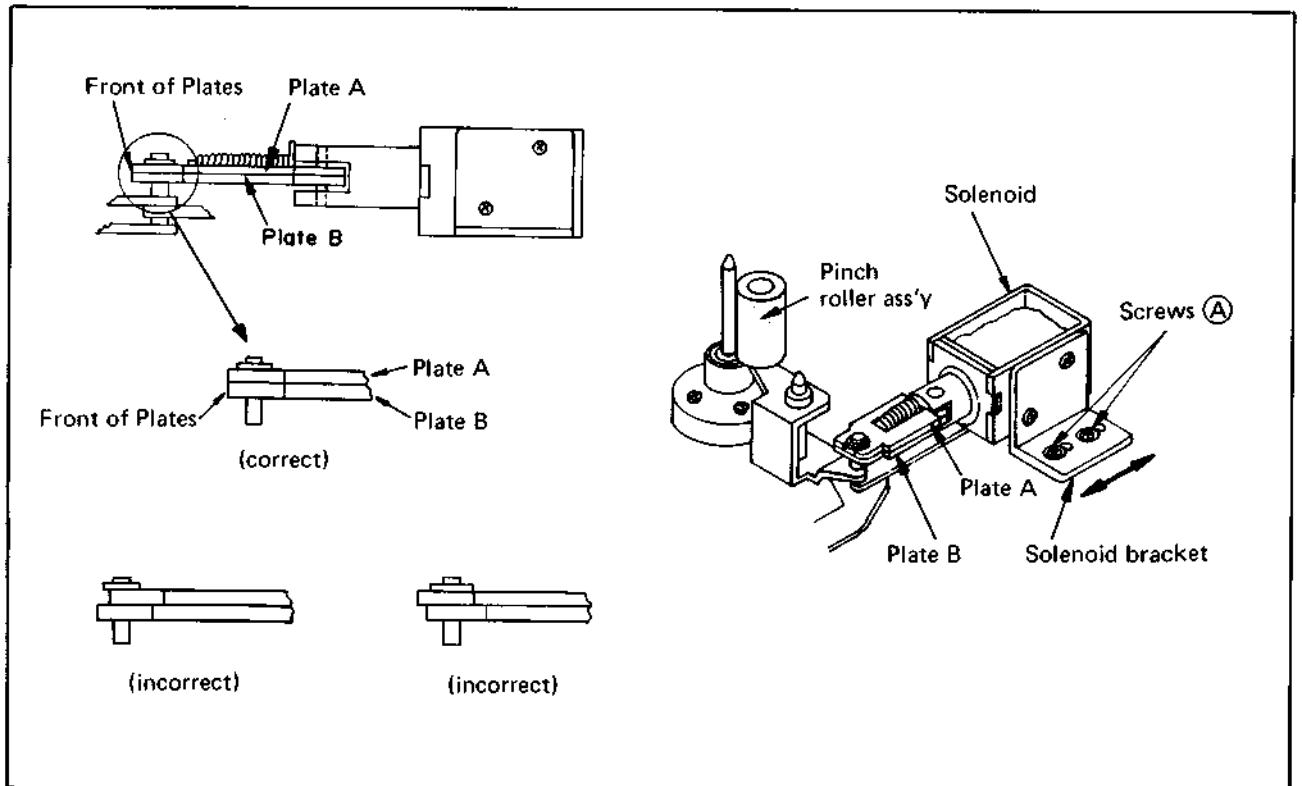

Fig. 4-29
2. Refer to Fig. 4-29. Loosen two screws (A) and adjust front to rear position of pause solenoid so that leading edges of plate A and plate B are aligned.